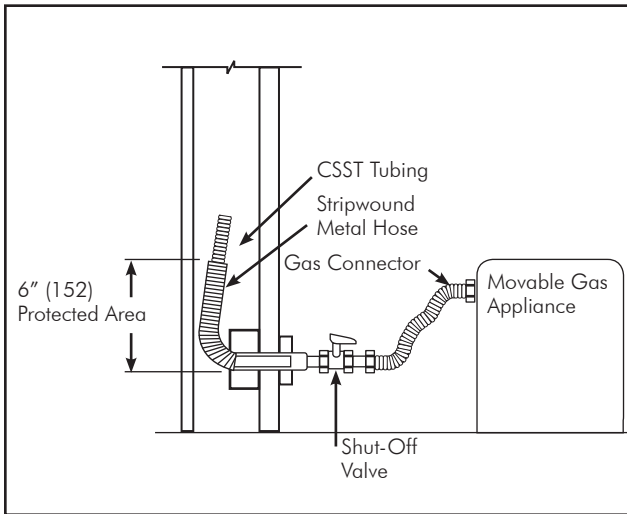

FIG. 4-21 Stainless Steel Gas Connector Connection to a Movable Gas Appliance
ALSO NOTE MINIMUM DISTANCES OF FLOPPY STEEL CONDUIT IN **FIG. 4-21 & 4-22**
- **Movable appliance connections**, such as ranges and dryers, shall be made using approved flexible appliance connectors (See **FIG. 4-21**).